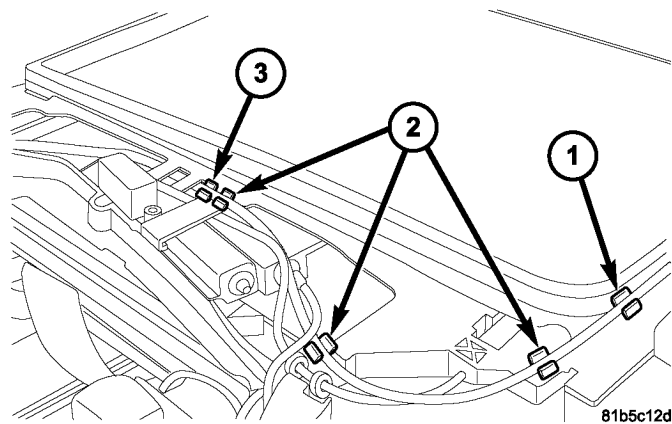

Fig. 1 CONDUIT RETENTION
2. Remove M6 mounting bolts (4) at rear portion of sunroof module.
3. Remove the kinked cable conduit(s) from sunroof module retaining features starting from the end at the metal clip and work back to motor area, see (Fig. 1).